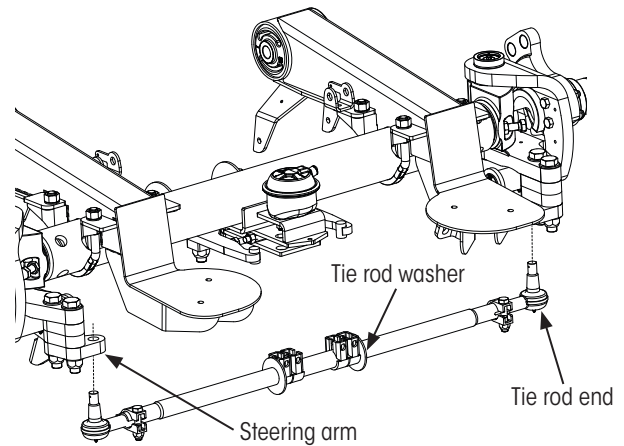
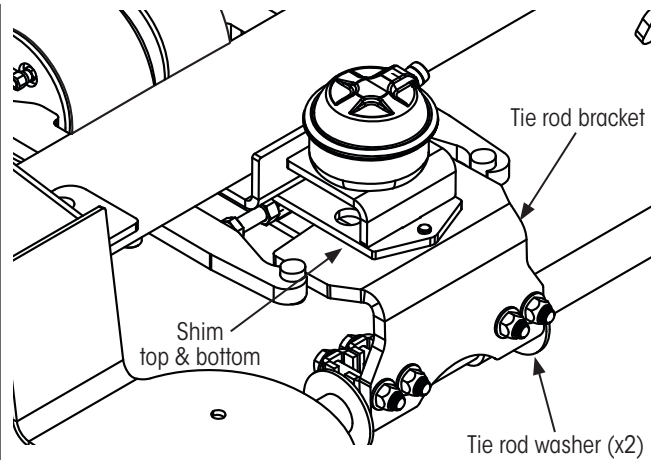

Figure 14: Remove/attach tie rod assembly
Figure 16: Positioning tie rod bracket
2. If replacing the tie rod assembly (Figure 14), **go to REATTACH TIE ROD** on page 11.
2. **Insert** the tie rod end into the steering arm (Figure 14). If applicable, **repeat** for the opposite end.
2. **Ensure** the tie rod bracket is correctly positioned in the lock-straight assembly (Figure 16 and Figure 1 on page 5).
4. **Temporary shim** above and below tie rod bracket (Figure 16) to evenly space (center) the tie rod bracket vertically in lock-straight assembly.
5. **If tie rod washers** (Figure 14 and Figure 16) **are loose**, refer to installation drawing D-36237¹ for instructions on tack welding the washers in place.